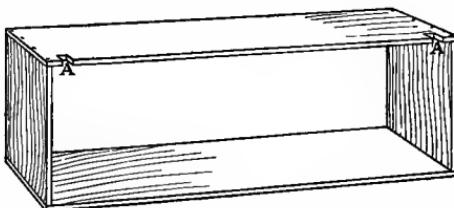

FIG. 350.—Make a Box like this for the Stage Framework.
Having a frame of the above proportions, prepare a box similar to that shown in Fig. 350 for
**The Picture Rollers.** Notch one edge of the top of the box  $1\frac{1}{2}$  inches from each end, making the notches 1 inch square (*A*, Figs. 350, 351, and 352); then prepare the